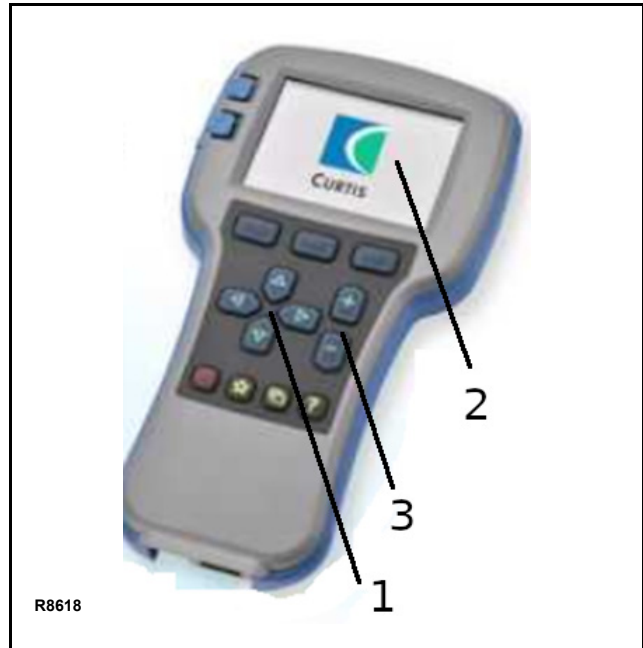

Figure 4-2. Hand Held Programmer
2. Turn the lift truck key switch to the ON position. The programmer should “power up” with an initial display (2, Figure 4-2), and the controller’s Status LED should begin steadily blinking a single flash. If neither happens, check for continuity in the key switch circuit and controller ground.
To see the present status of the unit, use the Menu Navigation Key (1, Figure 4-2) to select: